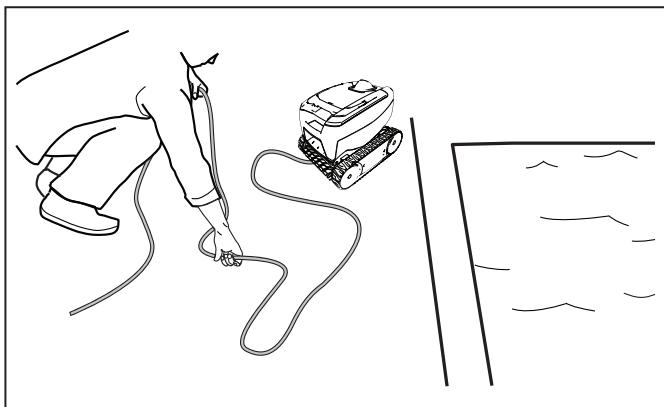

Figure 19. Lay Cable in the Sun
4. Remove the cleaner from the pool and untangle all kinks and coils in the floating cable at the cleaner head. Lay the cable in the sun to loosen any tangling memory (Figure 19).